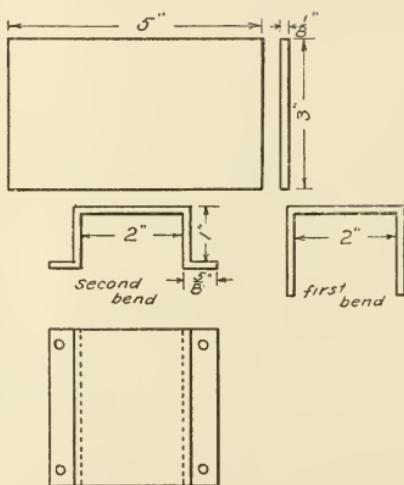

FIG. 213.—IRON FOR LEVELING ROD.
1. A piece of strap iron or heavy soft brass, Fig. 213, can be used for this slide. It is laid out with a pencil; and a line $1\frac{1}{2}$ " from each end is drawn across the piece, leaving 2" in the middle. Two other lines $\frac{1}{2}$ " from each end complete the laying out. The two ends are bent down at right angles. At the lines $\frac{1}{2}$ " from each end the iron is bent out again. The screw holes are then drilled.